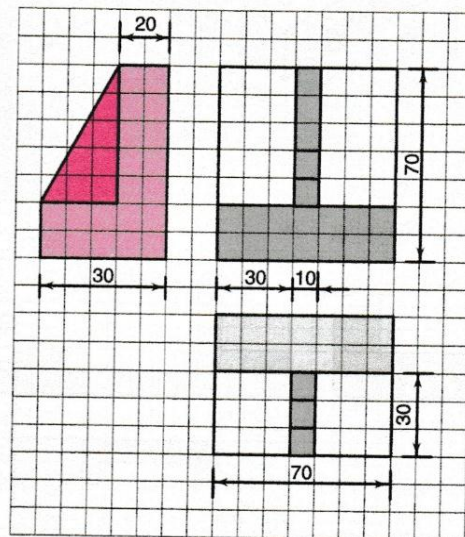

Fig. 5.82 Orthographic views of the M.S. block
**Solution** Refer Fig. 5.82
The required solution is shown in Fig. 5.82.